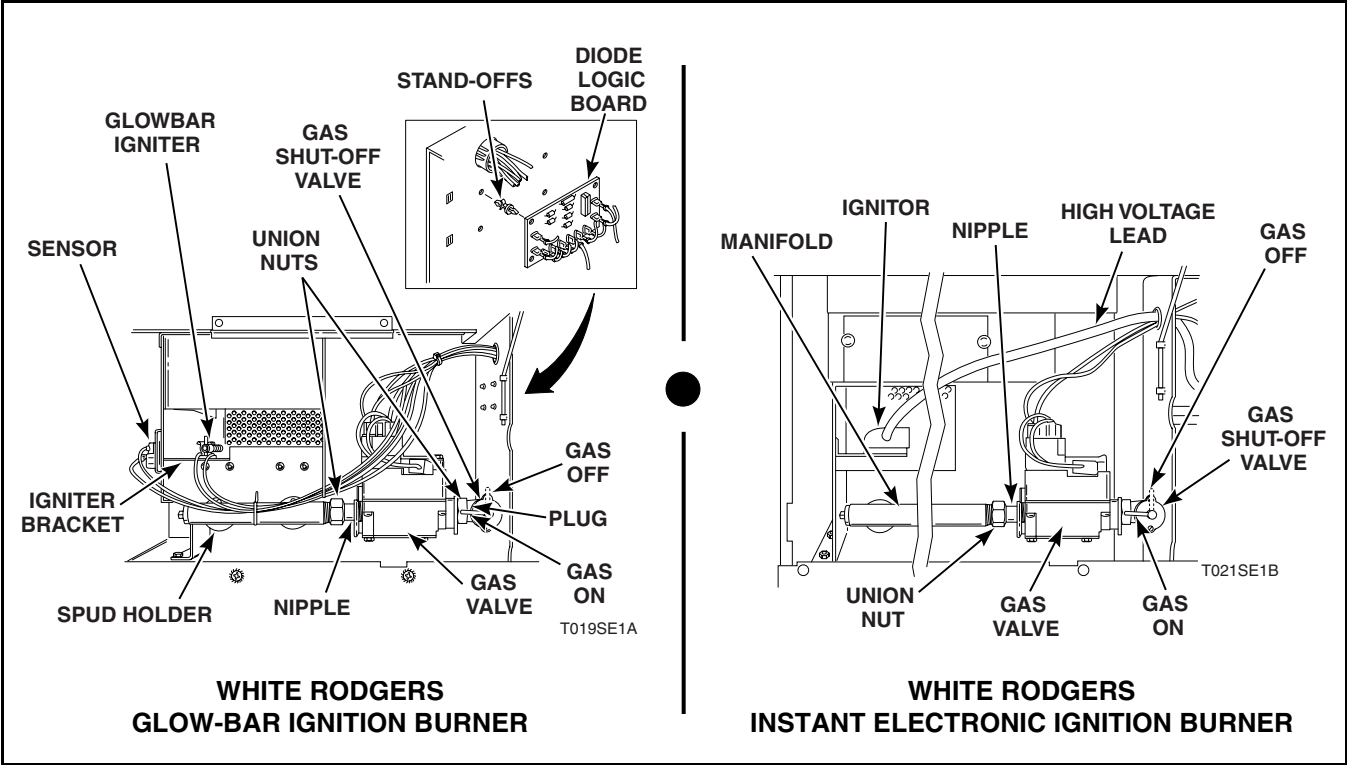

Figure 14
- b. Close gas shut-off valve. Refer to *Figure 14*.
Refer to *Figure 14*.
- b. Disconnect wires from diode logic board terminals. Refer to *Figure 14*.
- Close gas shut-off valve. Refer to *Figure 14*.